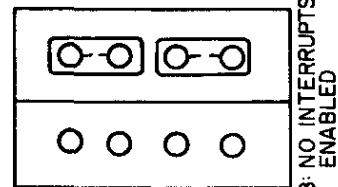

FIGURE 8: NO INTERRUPTS ENABLED
This jumper allows the interrupt outputs of the 1771 to be connected to the interrupt lines on the 30 pin I/O bus. Unless required by the operating system being used the interrupt jumpers should be in the no interrupts enabled position (Fig. 8 of the jumper configuration drawing). The GIMIX 6809 FLEX™ operating system as well as other vendors versions of FLEX™ do not require interrupts and they should be disabled. Consult the software vendors documentation for the interrupt requirements of other disk operating systems.
- # Depends on operating system (Fig. 8 no interrrupts for most operating systems including FLEX™)